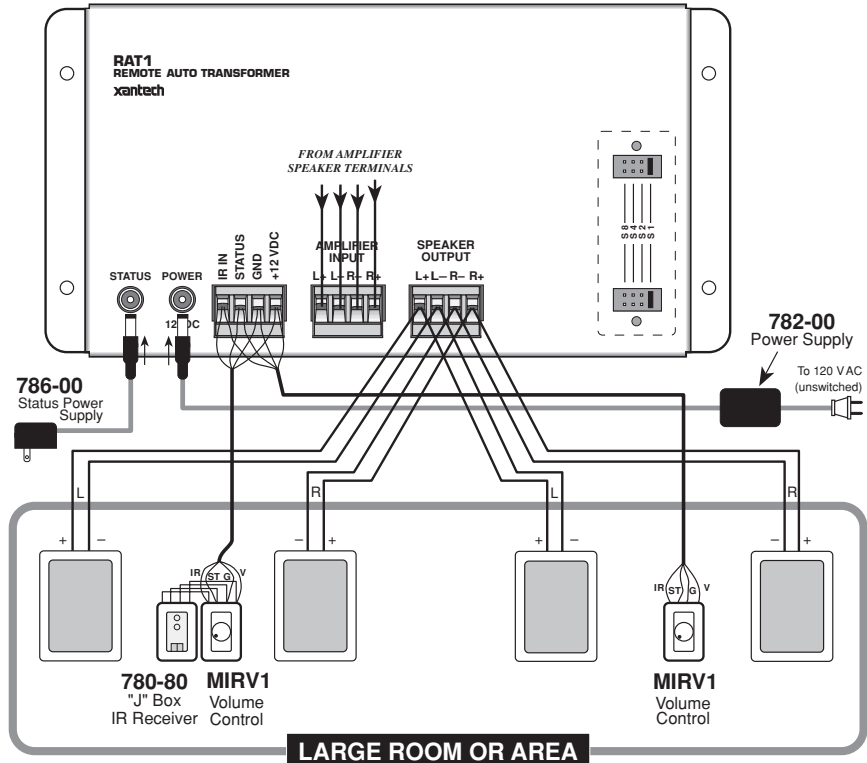

Fig. 6 Driving Two Speaker Pairs From One RAT1
In some cases you may need to drive more than one set of speakers from a single RAT1, such as in large rooms or adjoining areas where common volume operation is acceptable. A typical system is shown in Fig. 6.
1. Use the same charts and rules for setting the impedance jumpers. In Fig. 6, all 8-Ohm speakers and an amplifier capable of handling an impedance of 4-Ohms, is assumed; resulting in a jumper setting of **S1**.